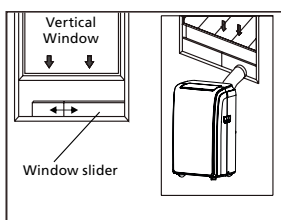

Fig. 5
**4** Affix the hose outlet into the window slider kit and seal. (Fig.5 &6).